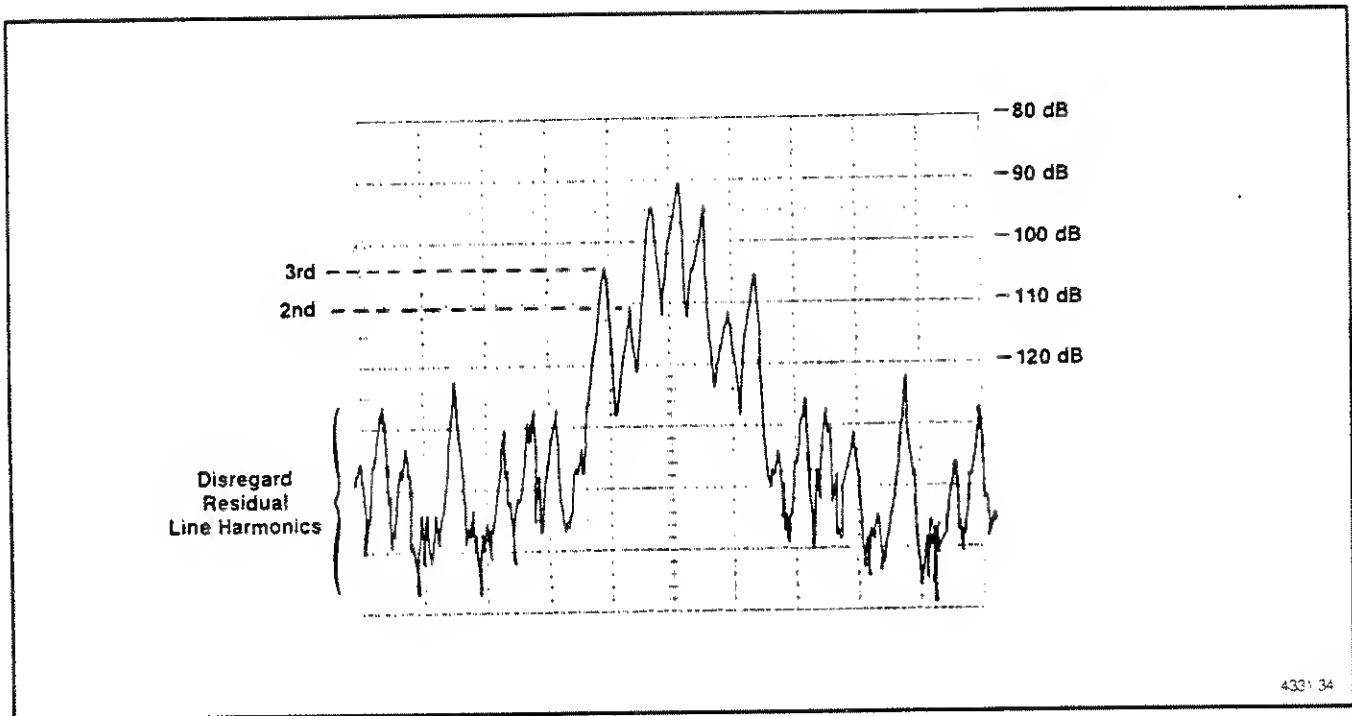

Fig. 5-6. 20 Hz harmonic distortion display.
h. Repeat steps 13-b through 13-e using the 20 Hz graticule mark on the display for step 13-b (see Fig. 5-6).
i. CHECK—that the calculated thd is less than -102 dB (see Fig. 5-6 for harmonics at 20 Hz).